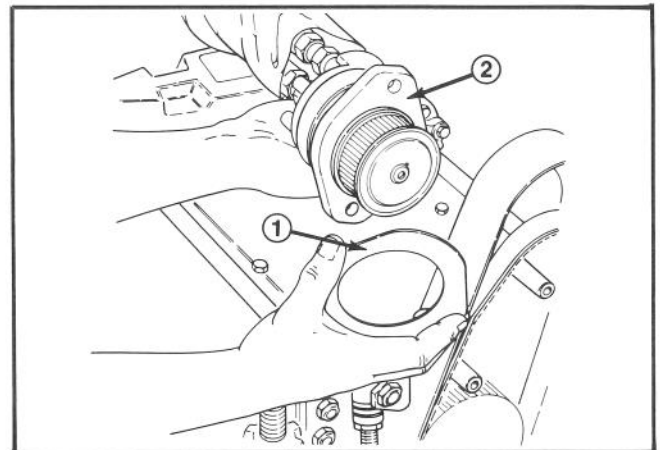

Figure 12
- B. Discard shipping cover and install the drive plate shield onto the reel drive motor flange (Fig. 12). Be sure the widest portion of the shield is at the top.